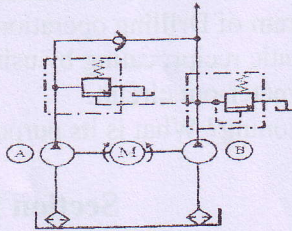

Fig. 1 Que. 1(c)
- A. How would you modify the system shown in fig. 1, if you wanted to unload pump B instead of pump A?